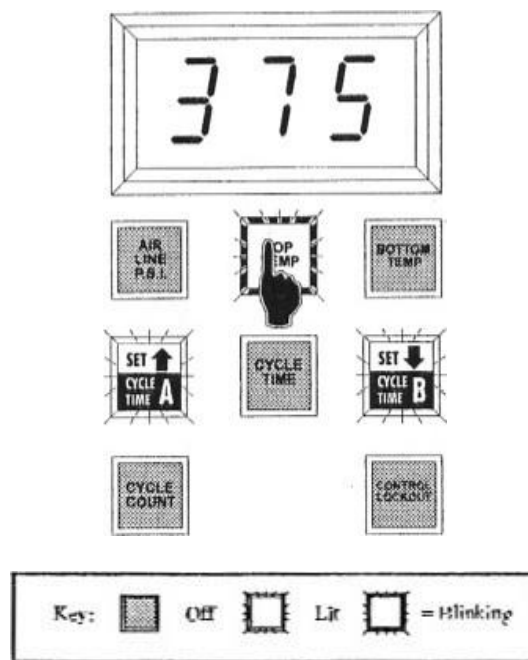

Figure 6-1
- While the control panel is in Monitoring Mode, press and hold the Top Temp button. After approximately two seconds, the panel's Up Arrow and Down Arrow buttons will light and the Top Temp button blinks, as shown in Figure 6-1. This puts the control panel in the Set Mode. Release the Top Temp button. The control panel displays the current setting for the top platen temperature (not the actual temperature, as shown in Monitoring Mode); if the platen is set to off, the control panel displays three dashes.